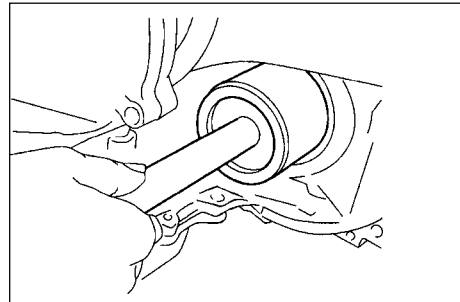

Figure 7-12
(1) Install a new oil seal on the transmission housing with a special tool and hammer. (See Fig.7-12)
(2) Apply MP lube on the flange of the oil seal.